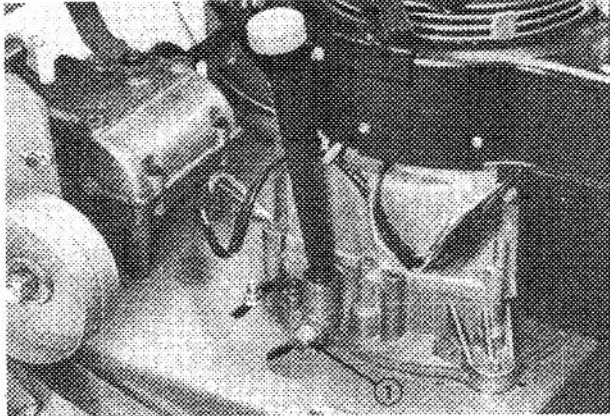

Figure 16
- B. Turn engine off and place drain pan under frame, below drain plug (Fig. 16). Remove drain plug and allow all oil to flow into drain pan. Install drain plug after oil stops flowing.